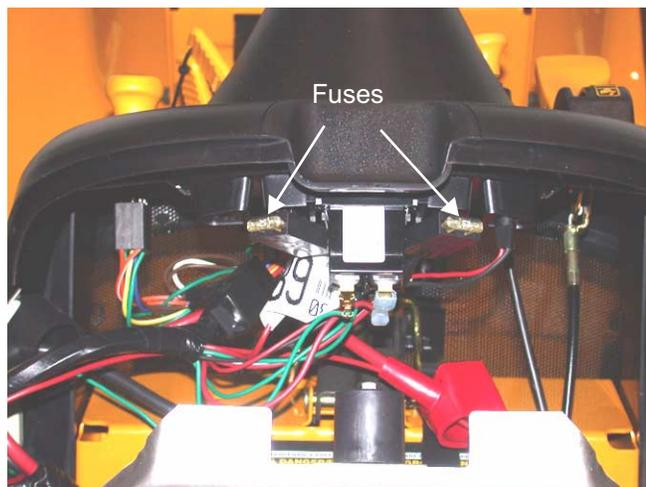

Figure 1.11
1.11. The fuses are located under the hood between the indicator lamps and the hour meter. The fuses are to protect the harness against excessive amperage caused by a short in the wiring harness or in the safety interlock system. Should a malfunction occur they are easily accessible. See Figure 1.11.